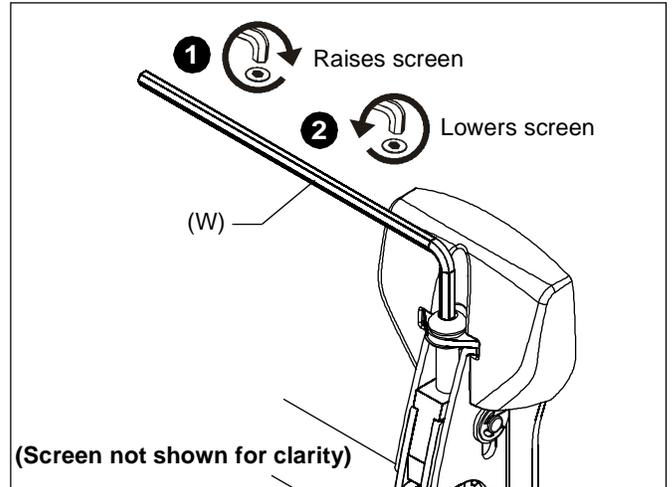

Figure 14
1. Turn to right (tighten) to raise side of screen (See Figure 14).